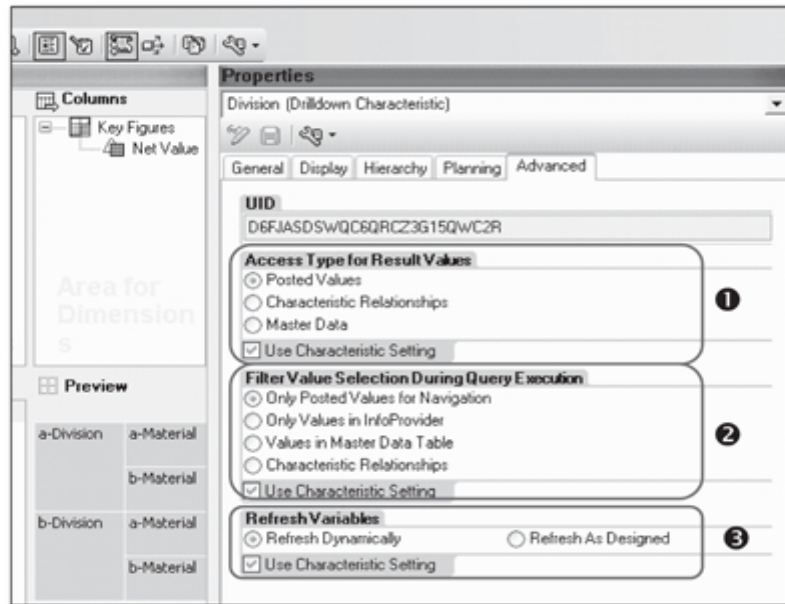

Figure 9.70 Characteristic Properties – Advanced Tab
The properties related to data access and data selection are maintained on the Advanced tab of the characteristic properties (see Figure 9.70).
Under the Access Type for Result Values section (❶ of Figure 9.70), you can define what values of the characteristic should be displayed in the query output. These options are explained here:
Similarly, in the Filter Value Selection During Query Execution (❷ of Figure 9.70), the setting determines the list of values you would get while selecting a filter value during query execution. You can also make variable refresh settings under the section shown in ❸ of Figure 9.70.